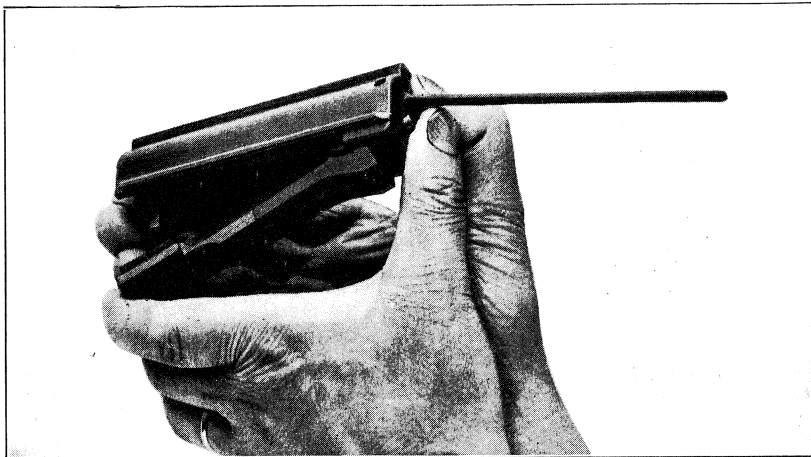

Fig.38
c) **Separate the slide from the bolt** — To do this disengage the fore part of the bolt from the slide and continue the movement by pivoting the bolt and at the same time pressing in on the rear of the firing pin (fig. 38).